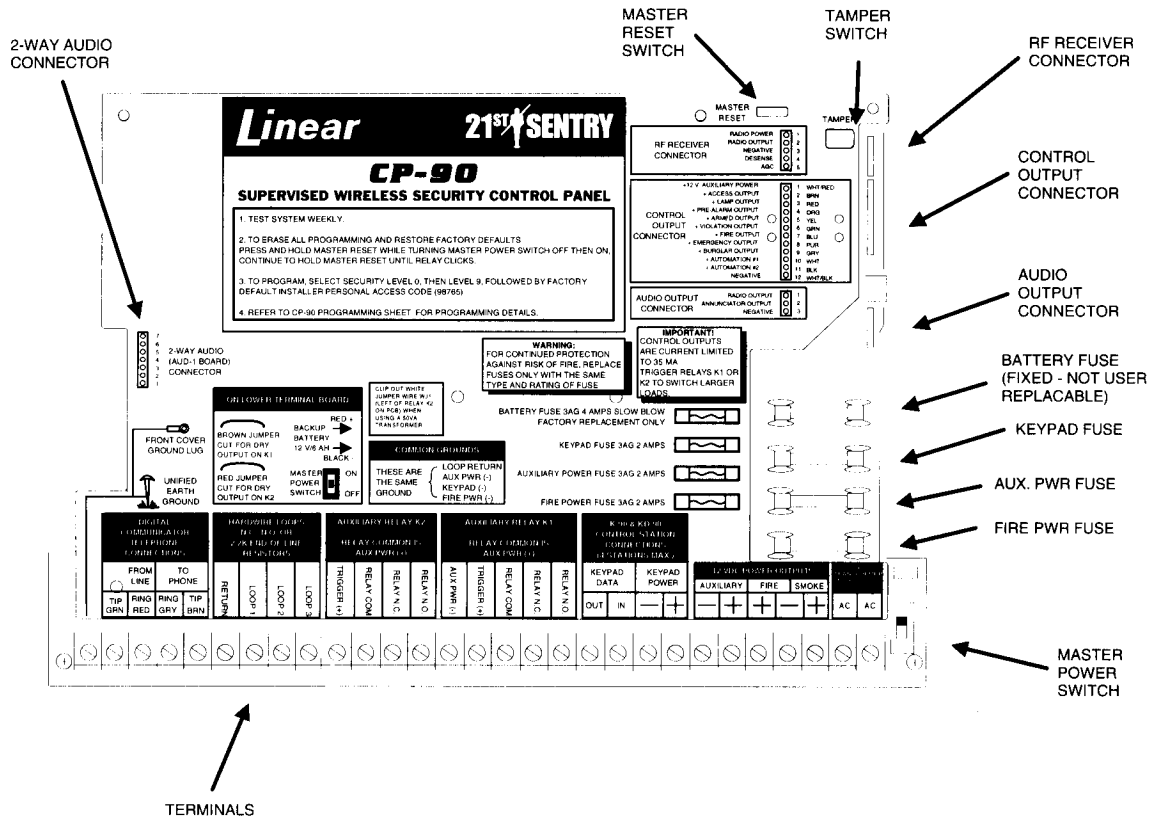

Figure 46. CP-90 Parts Location
- STEP 2** Use a small tool to press and hold down the MASTER RESET switch (see Figure 46).